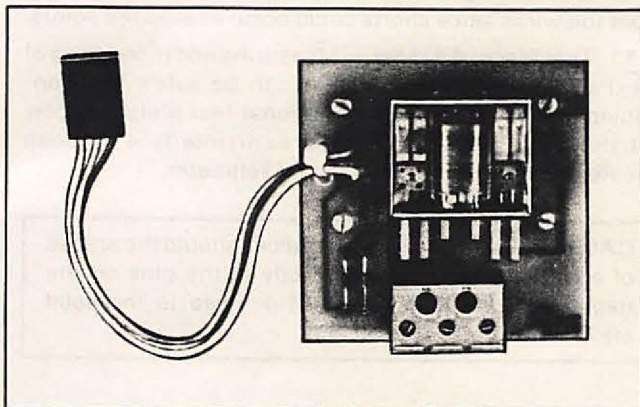

Figure 5.19 — Auxiliary M Contactor Kit
**5.10 Auxiliary M Contacts** — With the optional Auxiliary M Contactor Kit, the ON/OFF status of the FlexPak Plus is able to be interlocked with user-supplied devices. (Refer to Figure 5.19.) Typical applications include pilot/indicator lights, alarms, and interlocking with other control circuits dependent on the drive system.